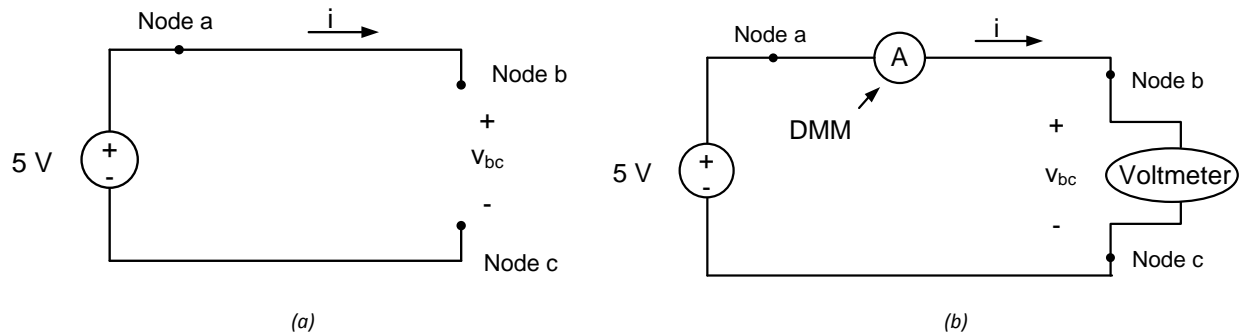

Figure 1. Circuit schematic.
Consider the circuit shown schematically in Fig. 1(a). A DC voltage supply of 5V is connected between nodes a and c to provide power to the circuit. We want to know the current, i , out of the power source, and the voltage across the open circuit, v_{bc} . Since there is an open circuit between nodes b and c, we will expect no current to flow through the circuit ($i = 0$ A) and the voltage difference between nodes b and c should be the same as the voltage applied to the circuit ($v_{bc} = 5$ V).
The schematic of Fig. 1(b) shows the same circuit, with the measurements which will be made explicitly indicated. A DMM is connected between nodes a and b to measure the current i . We will use one oscilloscope channel, connected across nodes b and c to measure the voltage v_{bc} . (Since the voltage v_{bc} will be a constant value, it is not absolutely necessary to measure this value using an oscilloscope. It would be more common to use a DMM to measure the voltage v_{bc} , if one were available.) You may need to use a combination of jumper wires and
1. Connect the circuit shown in Fig. 1(b) except do not connect the power supply to the circuit. Use your DMM to perform the current measurement and channel 1 of your voltmeter to measure the voltage v_{bc} . Note in your lab notebook the voltage and current with no power supplied to the circuit.